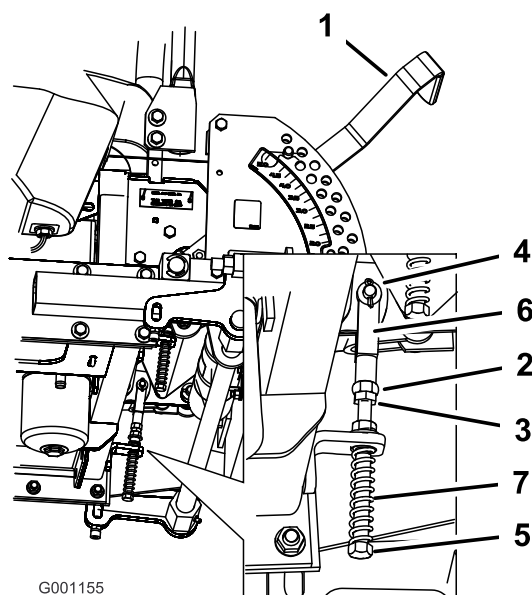

Figure 67
9. Apply slight rearward pressure on the motion control lever, turn the head of the adjustment bolt in the appropriate direction until the control lever is centered in the neutral lock position (Figure 67).
10. Tighten the nut and jam nut (Figure 67).
8. If adjustment is needed, loosen the nut and jam nut against the yoke (Figure 67).